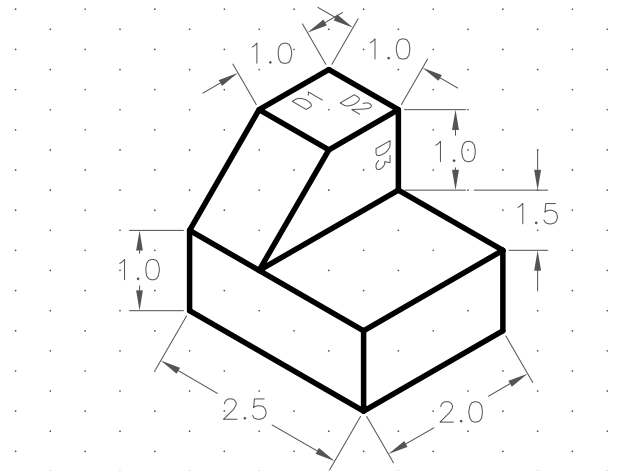

Figure 24-15 The dimensioned isometric drawing before using the **Oblique** tool
1. Dimension the drawing given in Example 1, as shown in Figure 24-15. You can use the aligned or linear dimensions to dimension the drawing. Remember that when you select the points, you must use the **Intersection** or **Endpoint** object snap to snap the endpoints of the object you are dimensioning. AutoCAD automatically leaves a gap between the object line and the extension line, as specified by the **DIMGAP** variable.